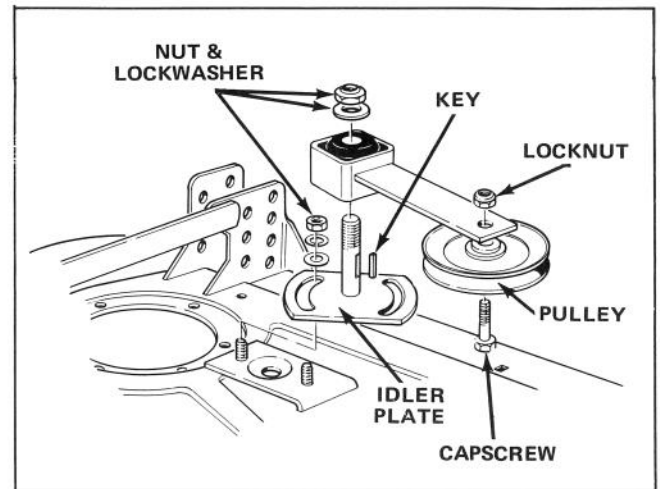

Figure 29
4. Remove large nut and flatwasher retaining idler arm on idler plate shaft (Fig. 29). Slide arm off shaft and account for the square key.
5. Remove capscrew and lockwasher securing idler pulley and arm together (Fig. 29).
2. Remove capscrews securing right hand cover to top of cutting unit (Fig. 29).
5. Remove two nuts, lockwashers and flatwashers holding slotted idler plate in place (Fig. 29).